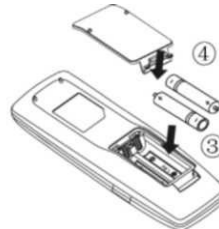

Fig. 2
- (3) Insert two AAA batteries (1.5V), making sure that the position of the "+" and "-" poles is correct (as shown in Fig. 2 (3)).
- (4) Reinsert the cover (as shown in Fig. 2 (4)).